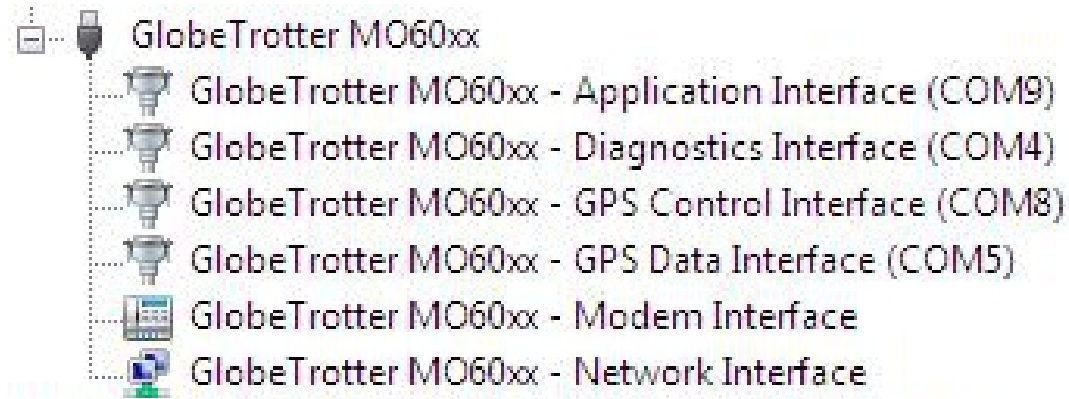

Figure 18: Ports occupied by the GTM60x
You can verify if the device is installed by opening Device Manager. Please configure it in the menu via "View", "Devices by connection". Expand the tree until you see the GlobeTrotter® module as shown in Figure 18.
(8) Repeat steps 2 to 7 for all drivers. Windows will start a wizard for each interface.
(9) On successful installation of all drivers, the device manager will show the following typical installed devices. Please configure the device manager by selecting “*View*”, “*Devices by connection*”. Expand the tree to show the USB devices (See Figure 18).